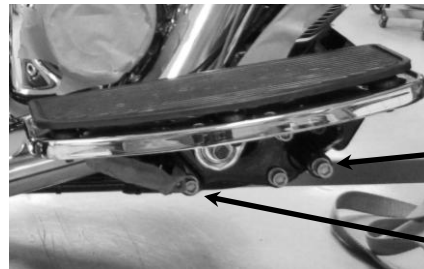

FIGURE 8
19. Insert the supplied floorboard spacer plate between the rear floorboard mount and the frame, then align the dowel pin and reinstall the allen bolt. Tighten to factory specifications. See **FIGURE 8**.
20. Remove the allen bolt from the right front floorboard mount. Place the supplied thick washer between the front floorboard mount and the frame. Reinstall and tighten the allen bolt to factory specifications. See **FIGURE 8**.